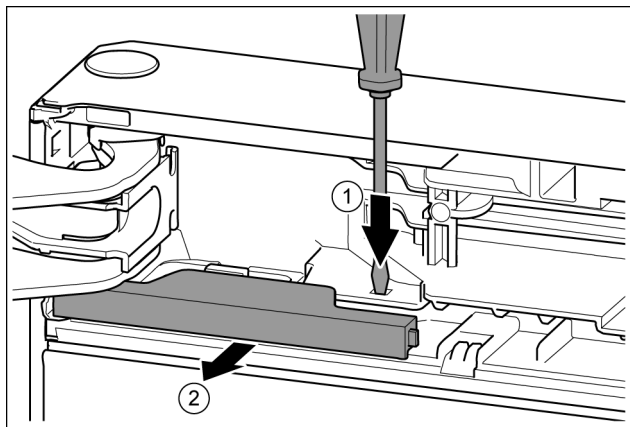

Fig. 11
- Press the tab with the slotted screwdriver. Fig. 11 (1)
- Pull cover out of the catch mechanism. Fig. 11 (2)